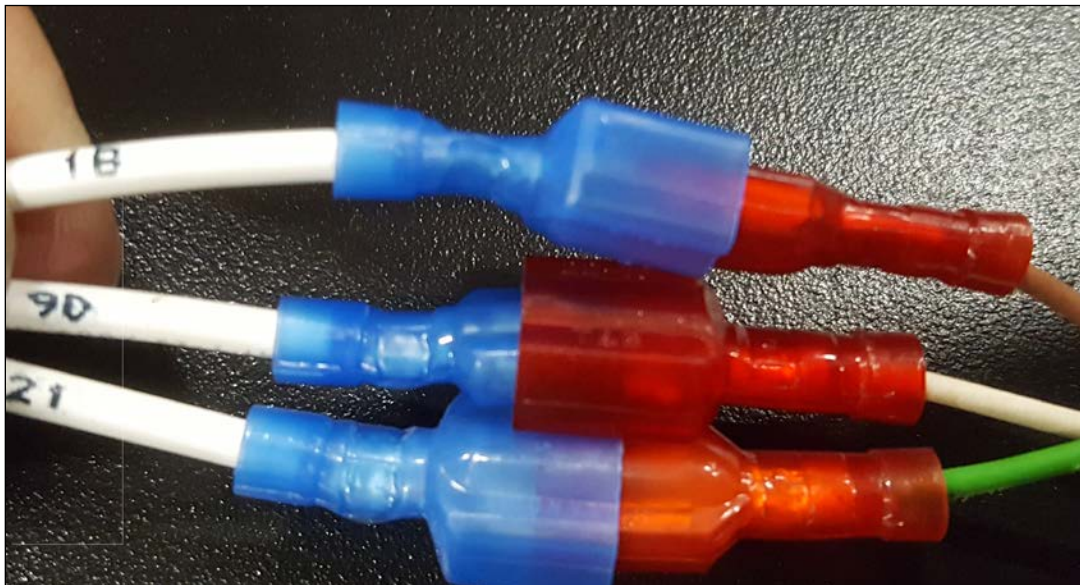

Figure 5
- If using X00A69900003 or X00A69900005, use the following instructions (See Figure 5):